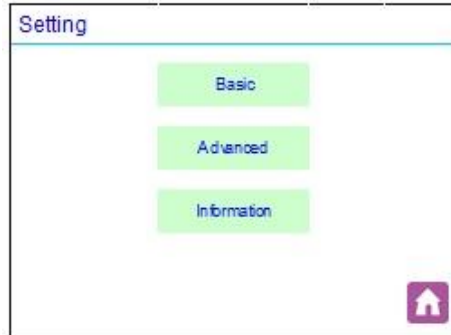

Figure 10 - Settings Screen
- a. Enter into the Settings screen as shown in **Figure 10**.